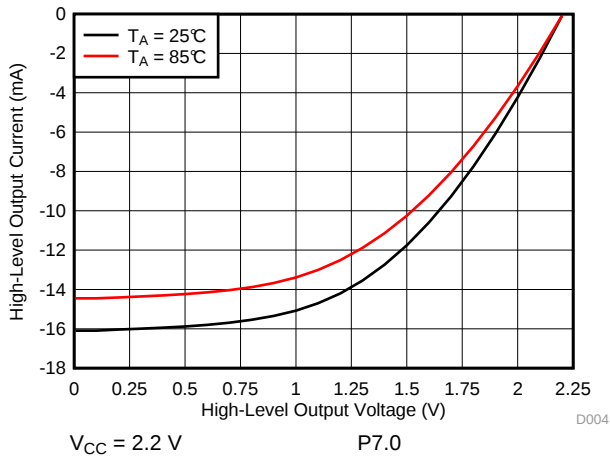
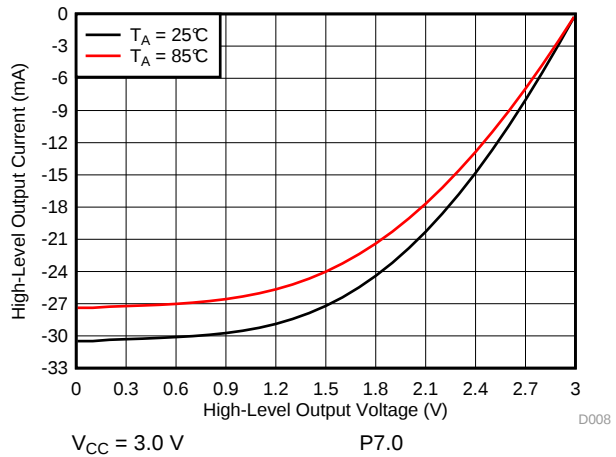

图 5-21. High-Level Output Voltage vs High-Level Output Current
图 5-22. High-Level Output Voltage vs High-Level Output Current
| V OH High-level output voltage (see 图 5-21 and 图 5-22)                   | I (OHmax) = -1 mA (1)                                          | 2.2 V           | V CC - 0.25 | V CC        | V    |